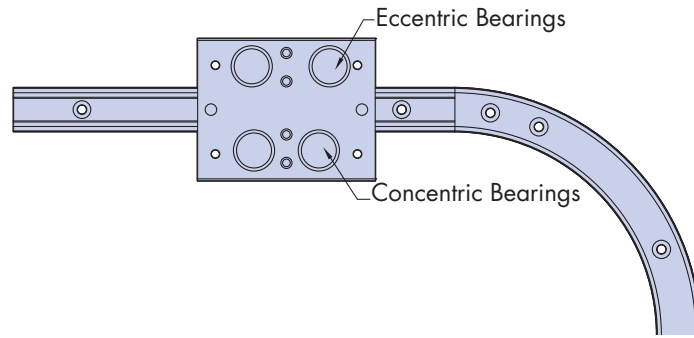

Figure 5.1 Carriage plate orientation
5.1 Ensure that, before assembling the carriage plates, they are in the correct orientation (figure 5.1). For standard carriages the concentric bearings should be on the inside of the track system with the more widely spaced eccentric bearings on the outside.